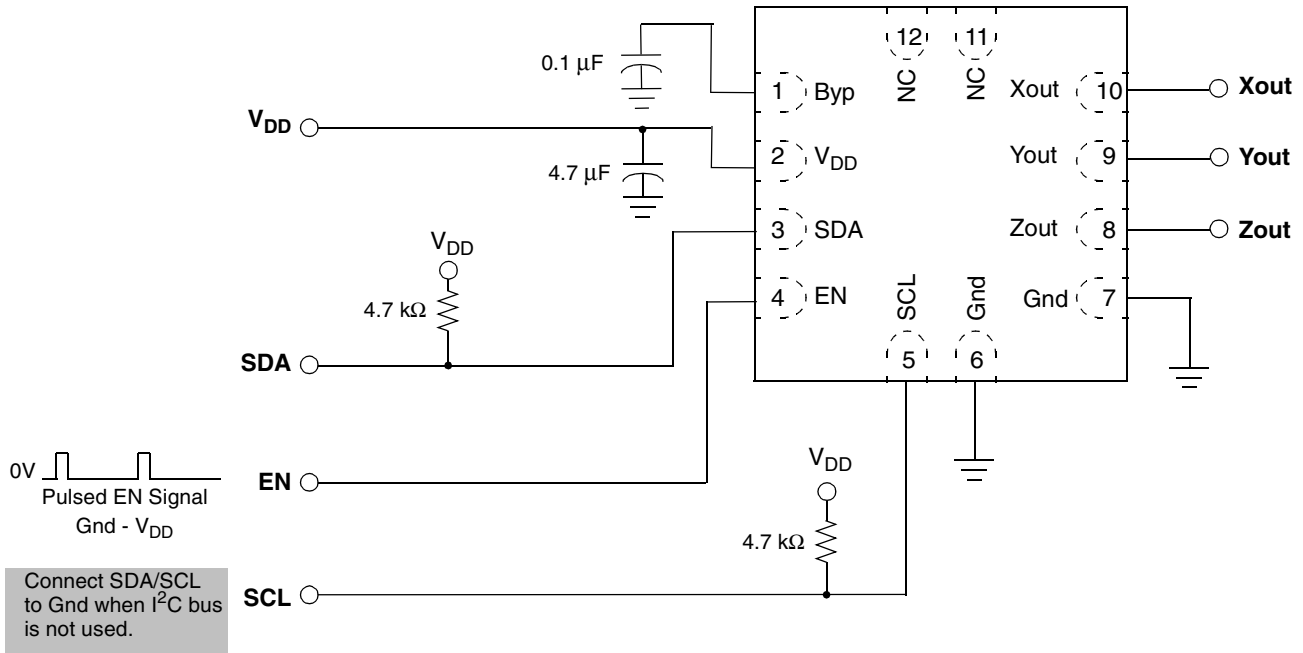

Figure 5. V_{DD} connects to power supply and EN is pulsed
To ensure the accelerometer is fully functional, connect the MMA8491Q as suggested in Figure 5.
- For application connection, see Figure 5 on page 6.